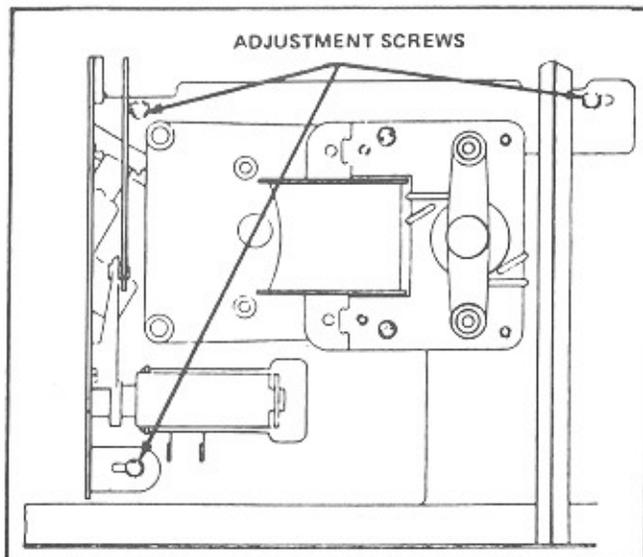

Figure 3-16. Magazine Adjustment
5. With sprag wheel locked, move the magazine until the record is centered between belt guides (The adjustment screws will be approximately centered in the slots. See Figure 3-16.).